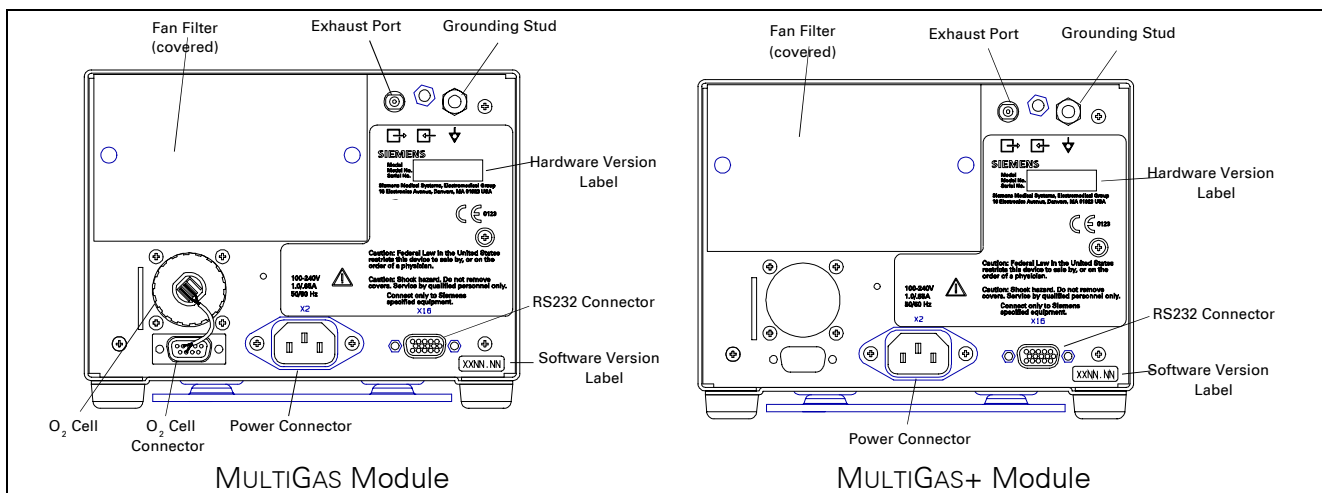

Figure E-1 MULTIGAS and MULTIGAS+ Modules - Rear Views
MULTIGAS and MULTIGAS+ modules differ only in the way that they measure O₂. The basic MULTIGAS module measures O₂ using a galvanic cell, and calculates average inspiratory values for O₂ (labeled iO₂). The MULTIGAS+ module incorporates a faster-acting paramagnetic sensor that provides both inspired and expired O₂ measurements (iO₂ and etO₂). The outward appearance of the modules differs only in the rear view. The O₂ galvanic cell is visible on the rear panel of the MULTIGAS module. The paramagnetic cell is internal in the MULTIGAS+ module. See Figure E-1. In this document, the term MULTIGAS is used synonymously with MULTIGAS+ unless specifically stated otherwise.
1. Plug CPS - MGM cable into RS-232 Connector, and power cable into power connector on rear of module. See Figure E-1.